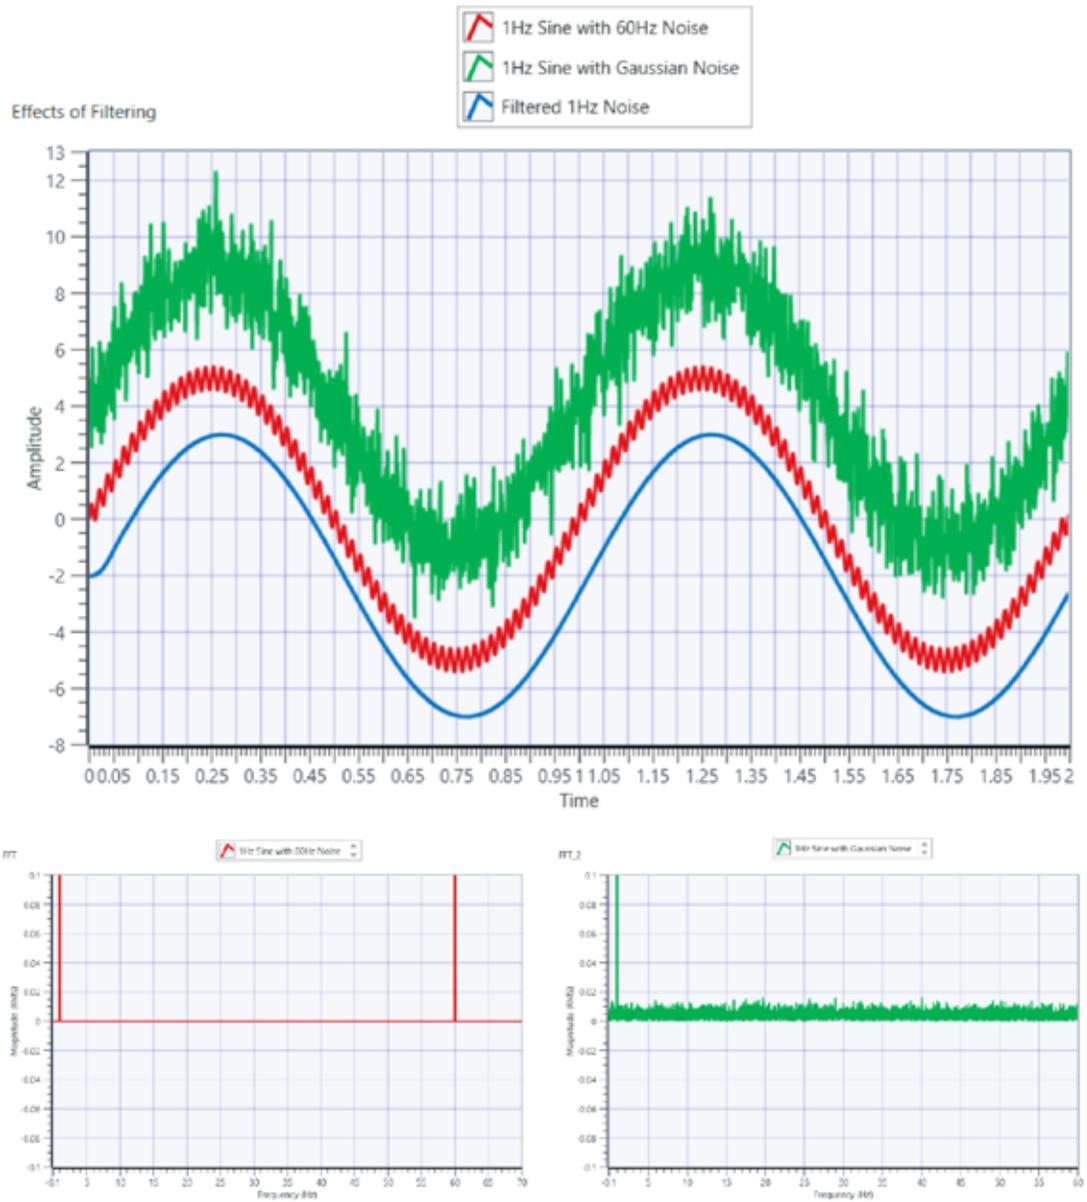

Figure 34. Filtering has an impact in both the time and frequency domains.
- When using averaging to minimize noise in a signal, you assume that noise has a Gaussian, or random, distribution. If the noise is not random by this definition, using averaging on the measured signal may not provide accurate results. Figure 34 shows how to determine if the noise is Gaussian using a representative graph and comparing the FFT of a 1 Hz sine wave featuring Gaussian noise with a 1 Hz sine wave featuring 60 Hz noise: